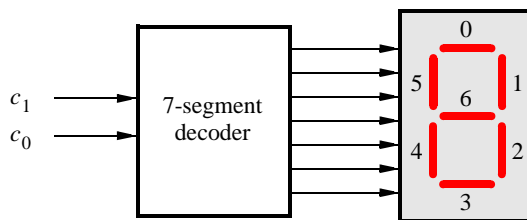

Figure 6: A 7-segment decoder.
The objective of this part is to display a character on a 7-segment display. The specific character displayed depends on a two-bit input. Figure 6 shows a *7-segment decoder* entity that has the two-bit input  $c_1c_0$ . This decoder produces seven outputs that are used to display a character on a 7-segment display. Table 2 lists the characters that should be displayed for each valuation of  $c_1c_0$  for your DE-series board. Note that in some cases the ‘blank’ character is selected for code 11.
2. Create a VHDL entity for the 7-segment decoder. Connect the  $c_1c_0$  inputs to switches  $SW_{1-0}$ , and connect the outputs of the decoder to the *HEX0* display on your DE-series board. The segments in this display are called  $HEX0_0, HEX0_1, \dots, HEX0_6$ , corresponding to Figure 6. You should declare the 7-bit port